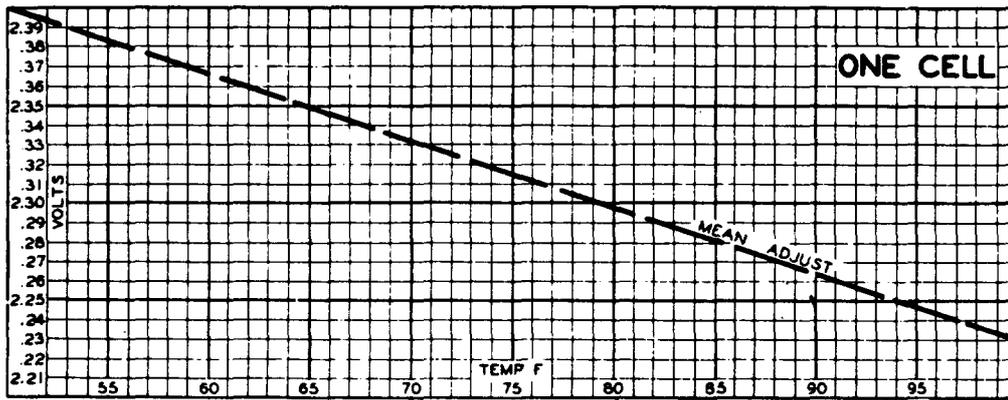

Fig. 6 - 253A and 253B Relays in Series with Rheostat — Operate Limits per Cell Basis for Charge Rates of 10 to 35 Per Cent of 8-Hour Discharge Rate of Battery
2.03 *The 253A and 253B relays for batteries with rheostats* in the relay coil circuit to reduce the charge, shall meet the operate values shown on a per cell basis in Fig. 6 unless otherwise specified on the circuit requirements table.
(2) Check the operate voltage of the relay and readjust the rheostat as required to give the proper operate voltage for the temperature of the relay as shown on a per cell basis in Fig. 6.
(3) If the specified voltage cannot be obtained by adjustment of the rheostat, check the circuit connections and mechanical requirements and make any necessary adjustments.